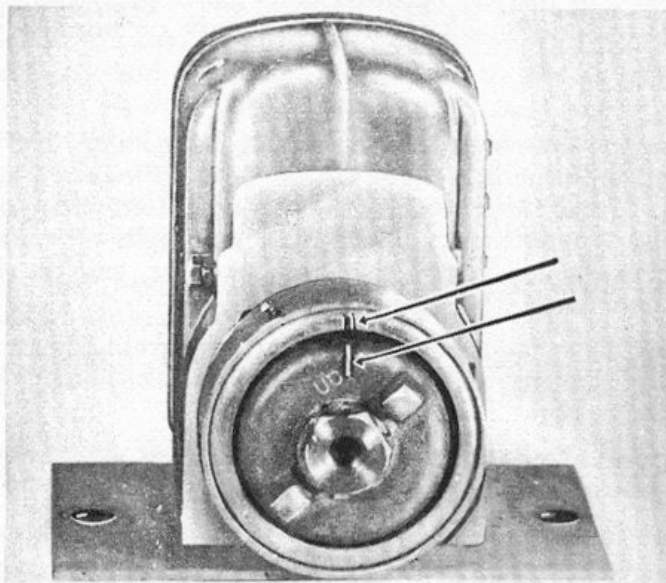

Figure 15. Timing Marks—Fairbanks-Morse Magneto
- Turn magneto adjustable coupling to the right (clockwise) until impulse starter trips. (The impulse starter makes a loud clicking noise when it trips.) Next, turn coupling back to the left (counter-clockwise) until timing mark on drive member is in perfect alignment with timing mark on impulse starter housing. (See figures 15 and 16.)